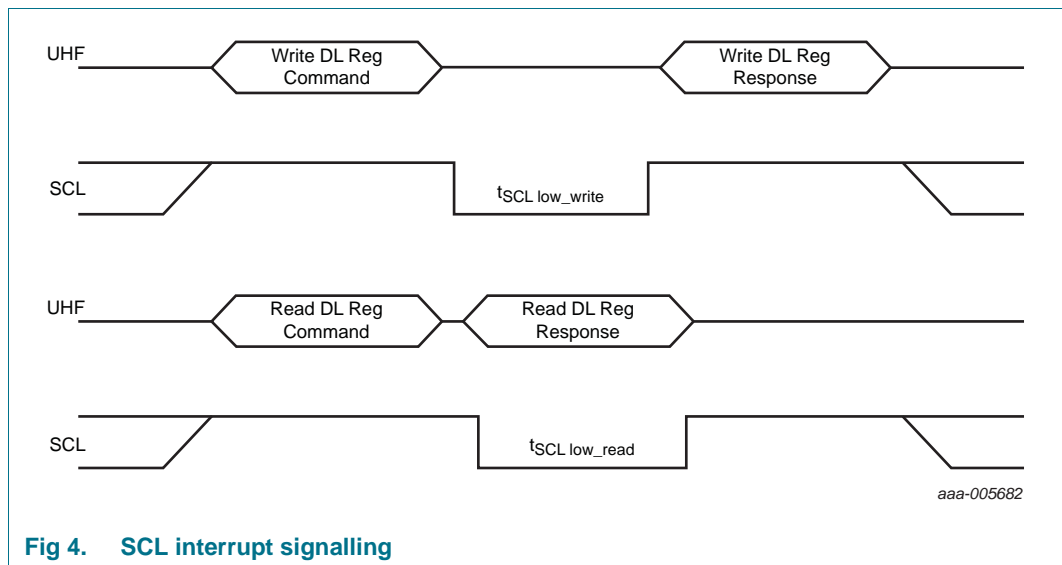

Fig 4. SCL interrupt signalling
- If the SCL INT enabler of the ConfigWord is set (20Bh) the SCL line will be pulled low for at least 210 μs in case new data was written by the reader or at least 85 μs in case new data has been read by the reader (see Figure 4 "SCL interrupt signalling" and Table 7 "Interrupt signaling via the I2C-SCL line timing").